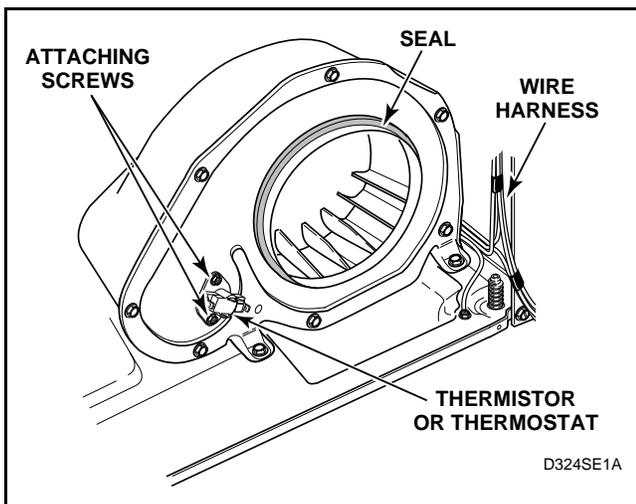

Figure 17
- c. Disconnect wires and remove thermostat attaching screws, thermostat and heater. See *Figure 17*.
IMPORTANT: When reassembling, be sure seal on exhaust fan cover makes airtight seal on flange of duct. See *Figure 17*. If the seal is installed improperly, the airflow through the exhaust system will be restricted which can adversely affect dryer performance.
IMPORTANT: When reinstalling motor and exhaust assembly, be sure wire harness on right side is clipped to motor mounting bracket and is routed along dryer base (between motor mounting bracket and right side of cabinet). See *Figure 17*. Tab on rear of motor mounting bracket must be slid into slot in dryer base. Be sure the belt has been installed on the correct side of the idler lever. See *Figure 20*.